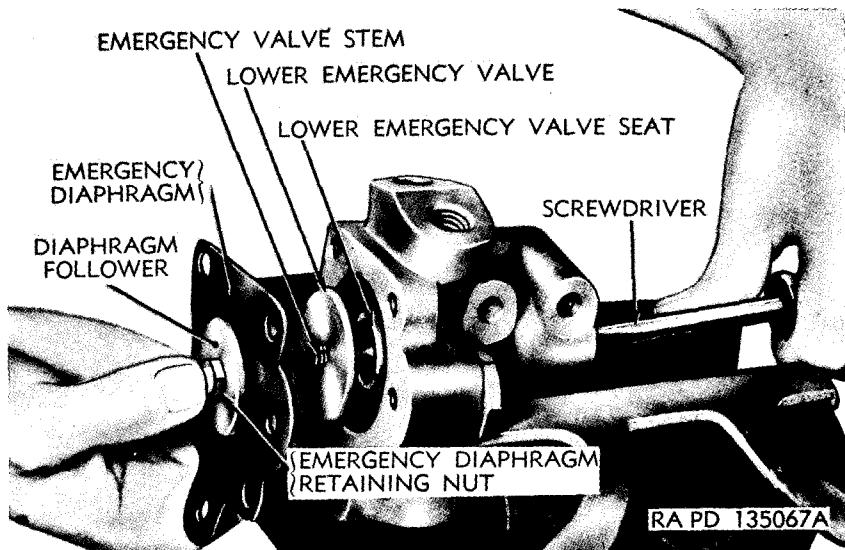

Figure 145. Removing type RE-1C emergency diaphragm.
- (e) Remove emergency valve cap nut. Using screw driver to keep the upper emergency valve stem from turning, remove the emergency diaphragm retaining nut (fig. 145). Remove diaphragm follower, emergency diaphragm, and lower emergency valve. Remove upper emergency valve.
(b) Position upper emergency valve in emergency valve body. Install lower emergency valve, diaphragm, and diaphragm follower on stem of emergency valve. Curved sides of lower emergency valve and diaphragm follower must be against diaphragm. Install emergency diaphragm retaining nut (fig. 145). Hold stem of emergency valve from turning with a screw driver and tighten nut securely.